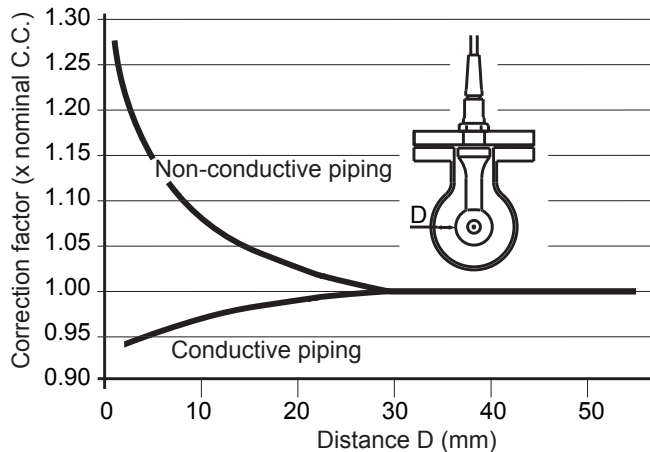

Figure 11.3 Relationship between the distance from the sensor to side wall and the cell constant
- If the sensor is installed in piping that is long in the axial direction with the cross section as shown in Figure 11.3, the cell constant of the sensor installed in the piping (reference data for a design center value of  $1.88 \text{ cm}^{-1}$ ) is as shown in Figure 11.3. A value obtained by multiplying the value on the sensor cable marker and a value read from Figure 11.3 should be entered.